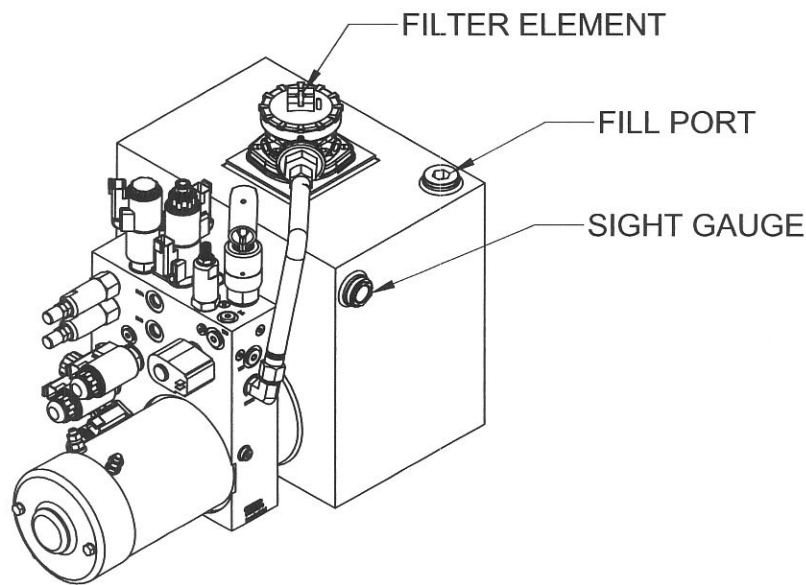

Figure 4-3. Hydraulic Reservoir
- If the hydraulic oil level is not visible to at least half way up the sight gauge, add clean Hydraulic Fluid while all booms are in the “stowed” (down) position, and the outriggers are fully retracted and in the “stowed” (upright) position. Pour slowly to avoid creating air pockets in the reservoir. **DO NOT** fill above the sight gauge. Refer to Figure 4-3